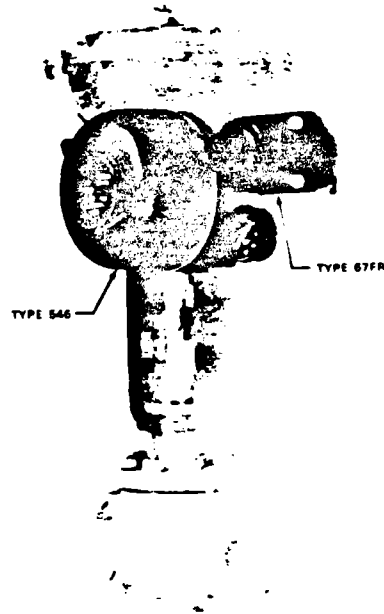

Figure 1. Type 546 Transducer Mounted on Fisher Type 657 Pneumatic Diaphragm Actuator
2. Run 3/8-inch O.D. tubing from the 1/4-inch NPT "OUTPUT" opening in the transducer case to the input connection on the pneumatic actuator or valve positioner. This connection will be made at the factory if the unit is shipped mounted on an actuator as shown in figure 1.